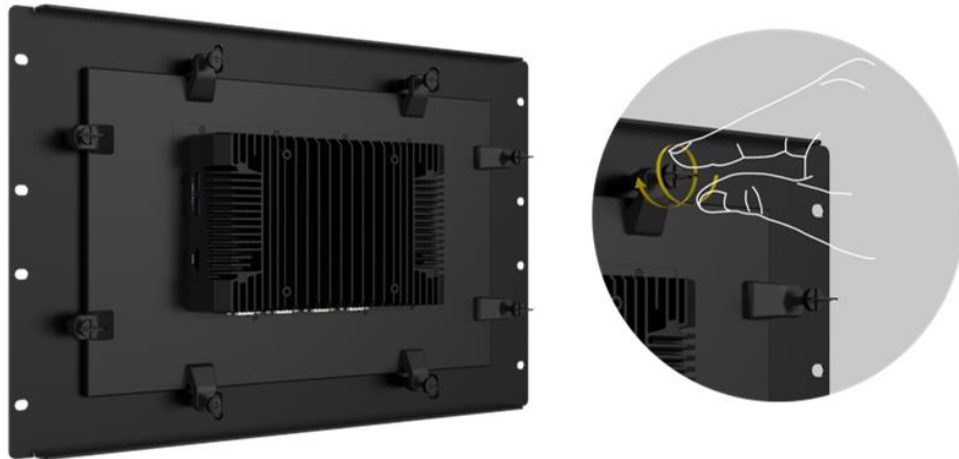

Figure 3-28: Tighten the Mounting Screws
Step 9: Tighten the screws that pass through the mounting clamps until the plastic caps at the front of all the screws are firmly secured to the panel (**Figure 3-28**).